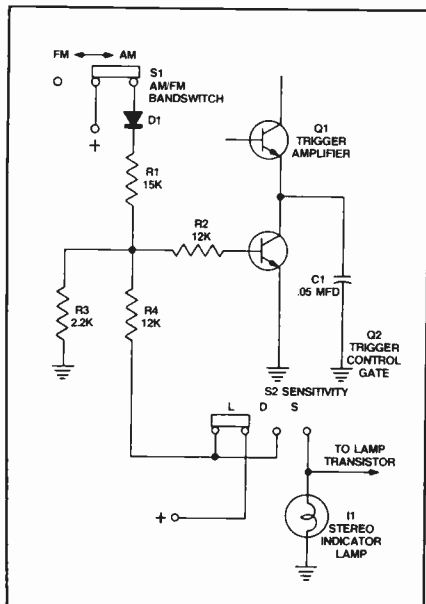

Fig. 5—Simplified schematic of the NAND gate circuit used to allow stopping only on FM stereo station signals.
One position of the seeker *sensitivity* switch (Fig. 5) allows the seeker to stop only on FM stereo signals. This is accomplished by using a trigger control gate transistor Q2 in series with the DC emitter-ground path of Q1, the trigger amplifier covered earlier. This circuit forms a type of NAND gate since the collector of Q1 is grounded *only* when *both* Q1 and Q2 are forward biased. In the AM mode of the bandswitch, permanent forward bias is applied to the base of Q2 through a set of contacts on the switch. In the FM mode, transistor Q2 will be forward biased so long as the seeker *sensitivity* switch is in either *local* (L) or *distant* (D) positions. If the switch is in *stereo* position (S), Q2 will not be forward biased unless the stereo indicator lamp is turned *on*. This, of course, only happens when the receiver is tuned to a